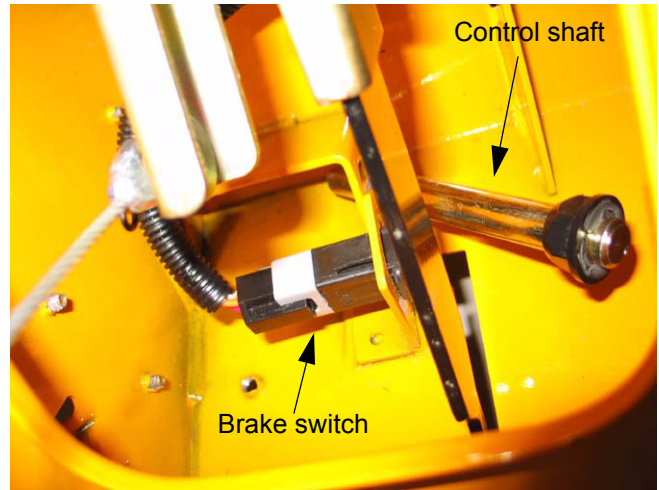

Figure 13.9
13.9. The control shaft can be removed from underneath the seat frame box. See Figure 13.9.